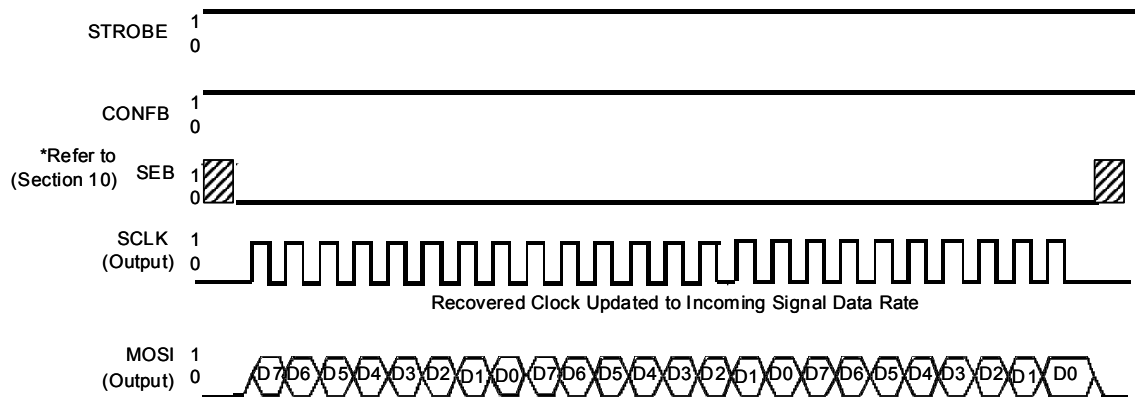

Figure 5. Typical Transfer in Receive mode with Data Manager
If an even number of bytes is received, the data manager may add an extra byte. The content of this extra byte is random. If the data received do not fill an even number of bytes, the data manager will fill the last byte randomly. Figure 5 shows a typical transfer.
- Output data and recovered clock on digital interface: see Figure 5.